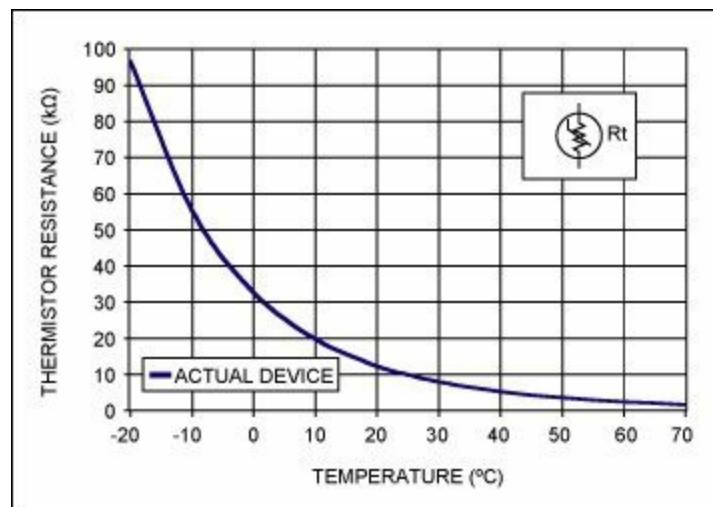

Figure 7-19: Thermistor (Copied from <http://www.maximintegrated.com>)
*Transducers* convert physical data such as temperature, light intensity, flow, and speed to electrical signals. Depending on the transducer, the output produced is in the form of voltage, current, resistance, or capacitance. For example, temperature is converted to electrical signals using a transducer called a *thermistor*. A thermistor responds to temperature change by changing resistance, but its response is not linear, as seen in Table 7-8 and Figure 7-19.